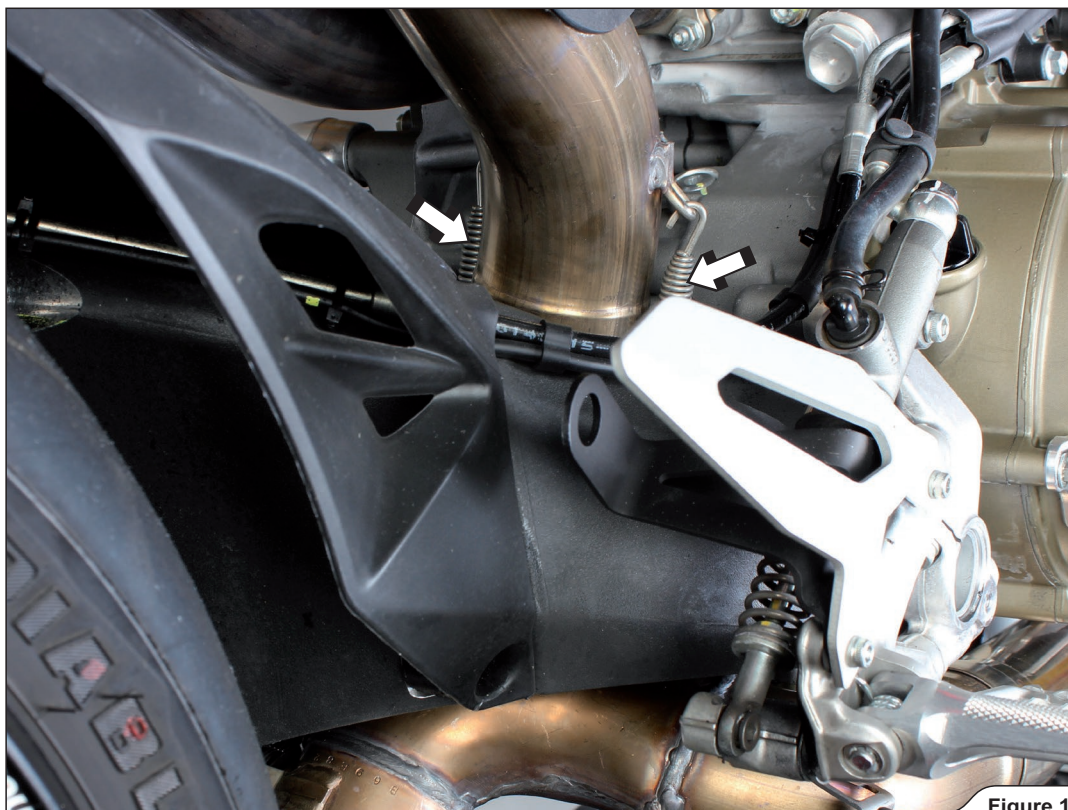

Figure 17
13. Unhook the marked rear header's springs and carefully remove the collector off the motorcycle (Figure 17).